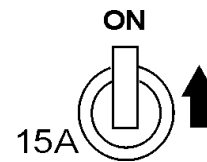
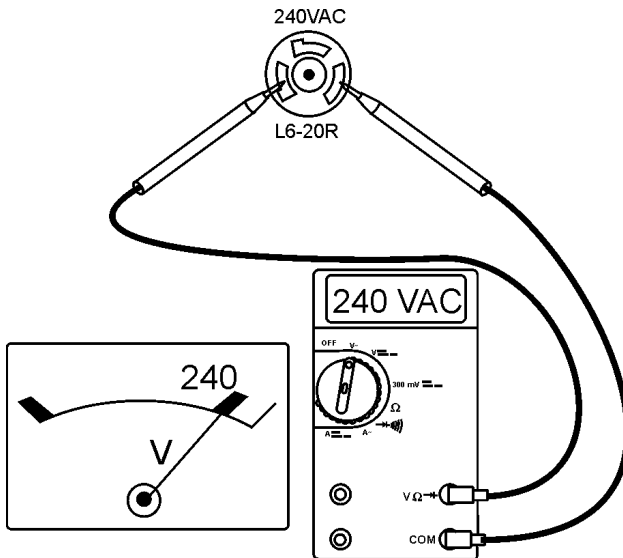

Figure 20. GFCI Circuit Breaker (ON)
Figure 22. 240V Receptacle
- Place GFCI circuit breaker (Figure 20) in the **ON** position.
13. Read voltmeter on front panel of generator (Figure 22) and verify that 240 VAC is displayed. Using an external voltmeter as shown in Figure 20, verify that 240 VAC is present at the 240V twist-lock receptacle.